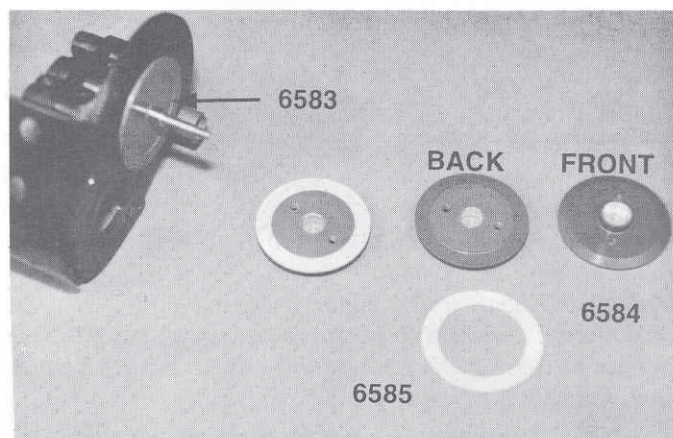

Fig. 64
□ **Figs. 64 & 65** 1) Now we need to remove the final #6596 3/16" x 5/16" unflanged bushing from bag B. (Both ball bearing and bushing kits use the same #6596 bushing for this assembly.) 2) From bag E remove the #6584 outer torque clutch hub, #6585 Rulon clutch disc, #6594 thrust bushing, two #6594 thrust bushing steel washers, #6587 torque control spring, and #6629 gold colored 5-40 steel locknut. **Note:** Associated's #6587 replacement part contains both the torque control spring and one #6629 5-40 locknut.
3) Fig. 64 shows both sides of the #6584 outer torque clutch hub, the #6585 Rulon disc, and both parts assembled together. To install the Rulon disc, place it over the recessed area on the back side of the outer torque clutch hub. Make sure the disc is centered on the hub.